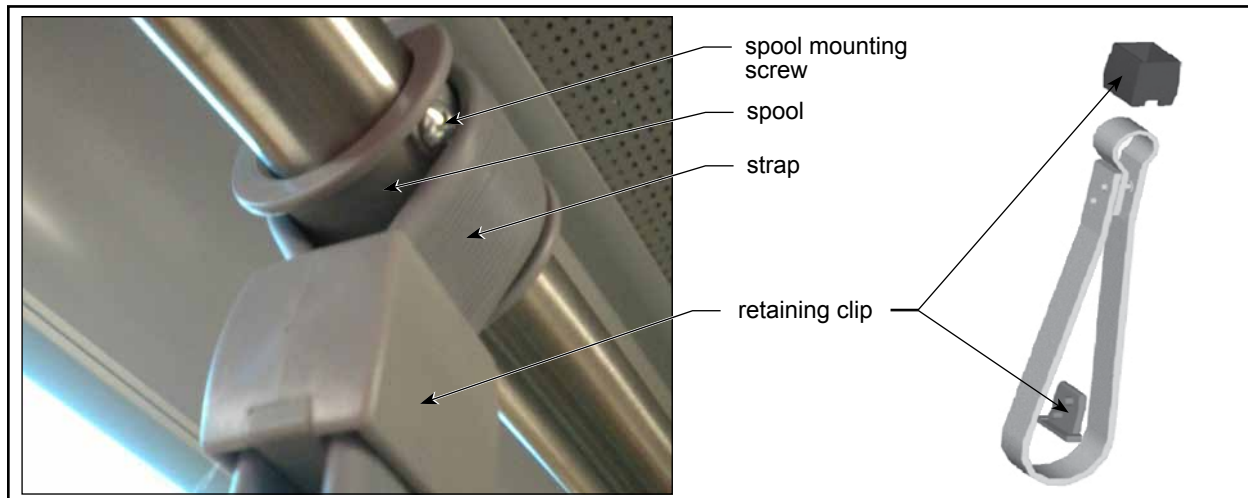

Figure 1 - Grabhandle
- 1.1. Remove all straps from the grab rails by releasing and removing the retaining clip and hardware. See Figure 1.
- 1.2. Remove the screw(s) from the spools. See Figure 1.